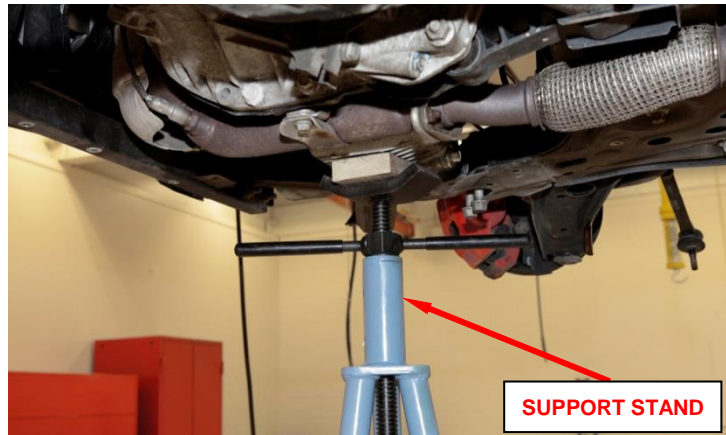

Figure 45 – Support Engine
46. Support the engine with an appropriate support stand (Figure 45).